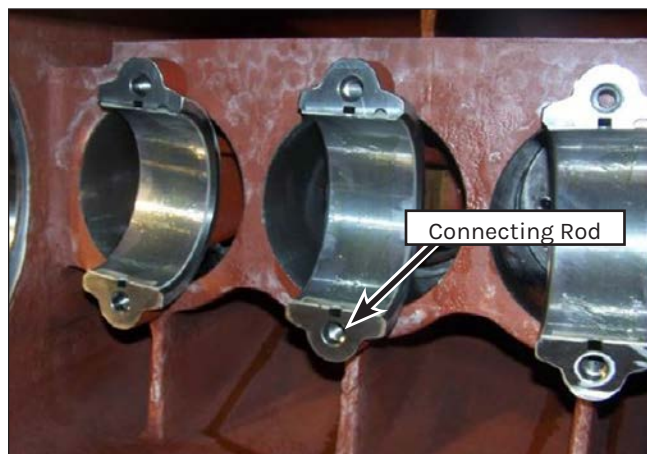

Figure 183: Connecting Rod Installation.
7. Place the three crosshead/connecting rod assemblies into place (Figure 183). Allow clearance for the crankshaft by pushing them towards the fluid end.